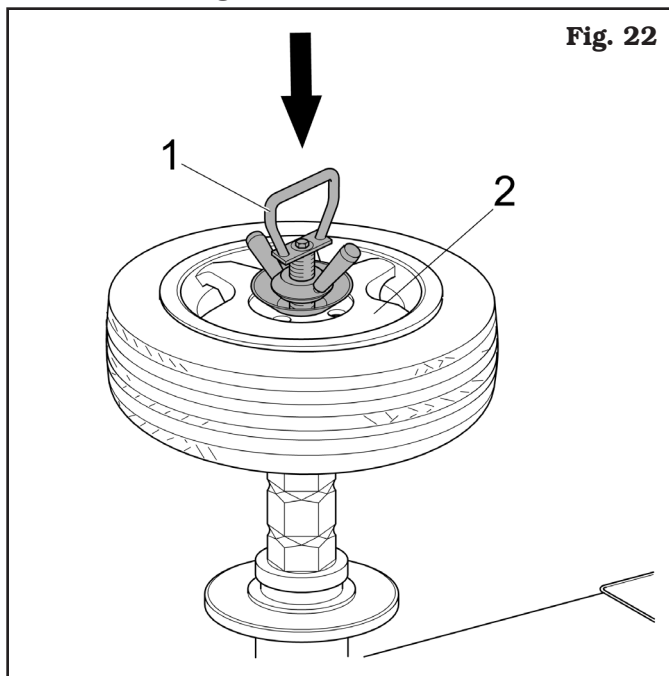

Fig. 22
4. Insert the shaft and the relative cone (Fig. 22 ref. 1) on the rim (Fig. 22 ref. 2).